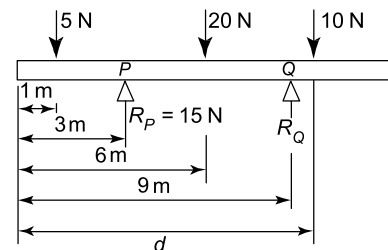

Figure RT3.2
11. For the beam shown in Figure RT3.2 calculate (a) the force acting on support Q , (b) distance d , neglecting any forces arising from the mass of the beam. (7)